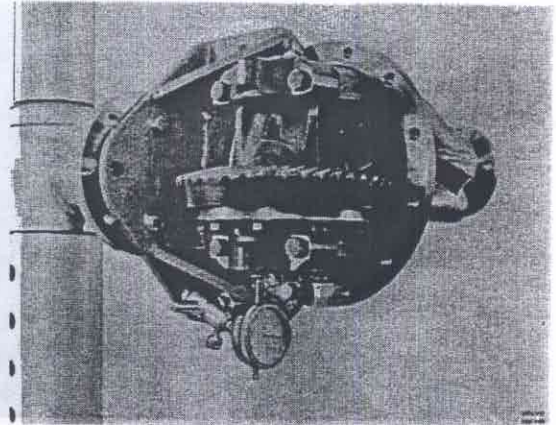

Fig. 46-73. Checking the clearance
2. Turn the carrier so that the indicator faces downwards, see Fig. 46-73. Rotate the crown wheel while pressing down the differential housing at the same time. Zero-set the indicator.